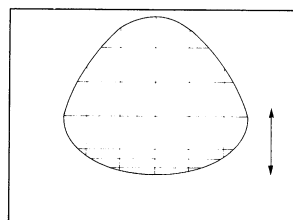

fig. 5
- Adjust the Vertical symmetry to obtain symmetrical scanning between upper and lower picture (fig. 5).